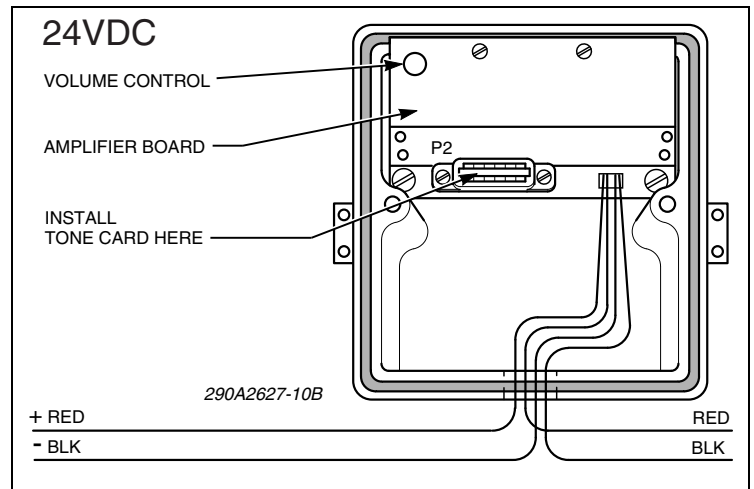

Figure 3. Tone/Connector Card Installation
- b. Plug the desired tone card into the socket as shown in figure 3.
- b. Plug the desired PTCK connector card (purchased separately) into the socket as shown in figure 3.